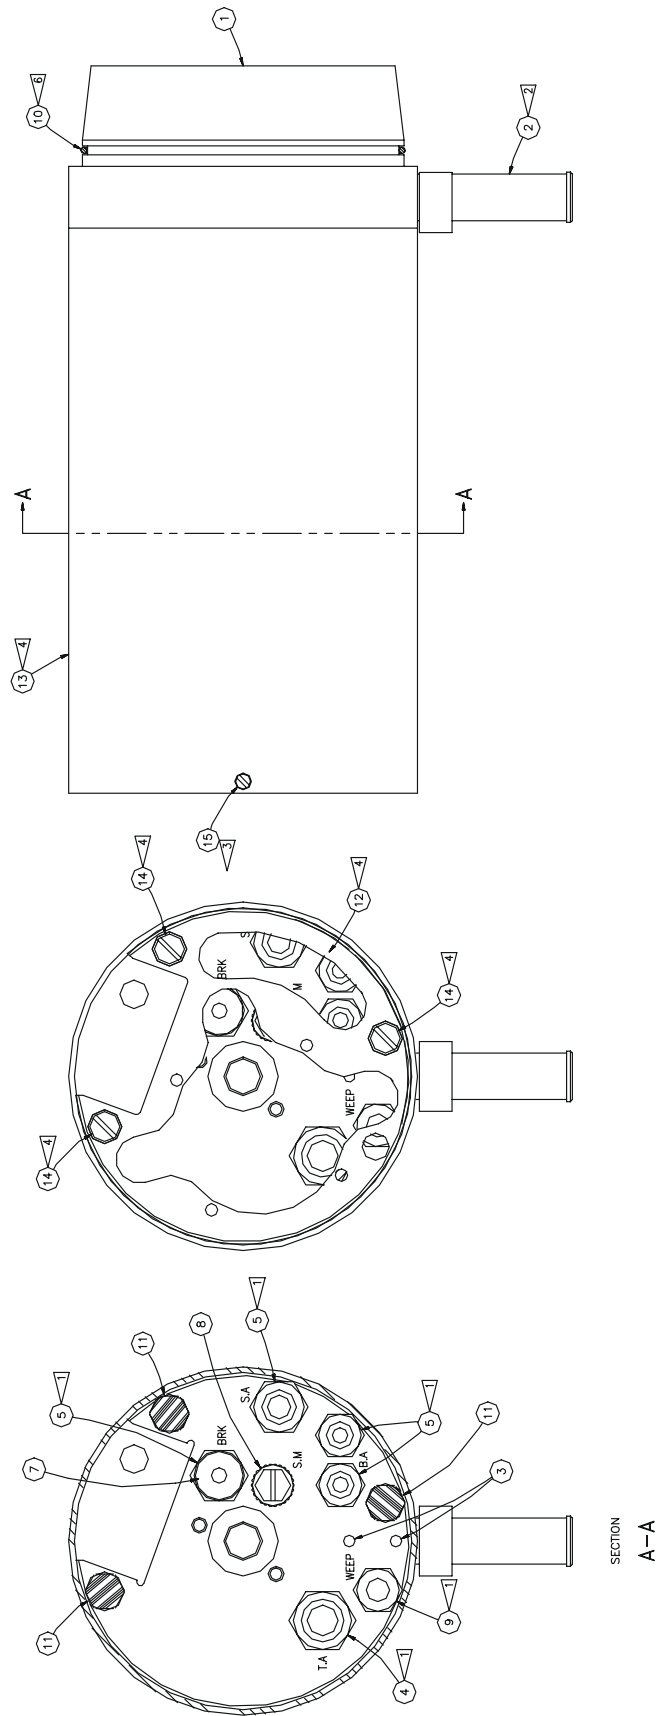

Figure 17: AER4004-02 Air Manifold Assembly
(Figure 17)**
*** PARTS LIST BULLET DEFINITION TABLE (Figure 17)**